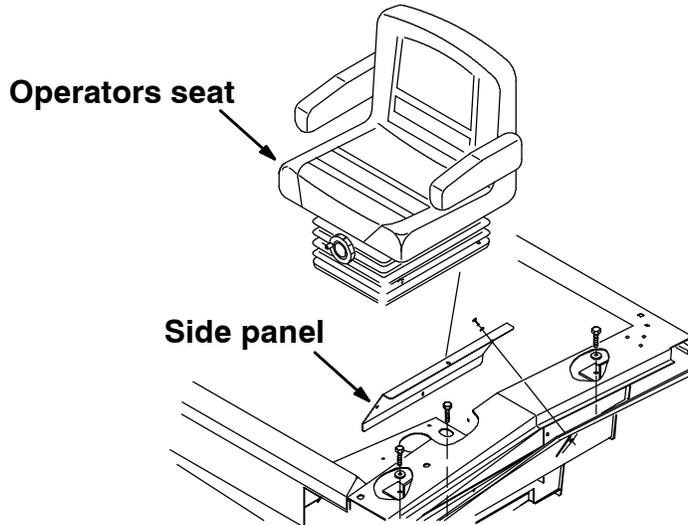

FIG. 2 - Operators Seat And Side Panel
6. Remove the seat assembly from the machine. (Refer to FIG. 2)
7. Remove the access cover panel from the operator's compartment to gain access to the old steering casting. (Refer to FIG. 2 and 3)
18. Reinstall access cover panel in operator's compartment. (Refer to FIG. 2)
19. Reinstall the seat assembly. (Refer to FIG. 2)